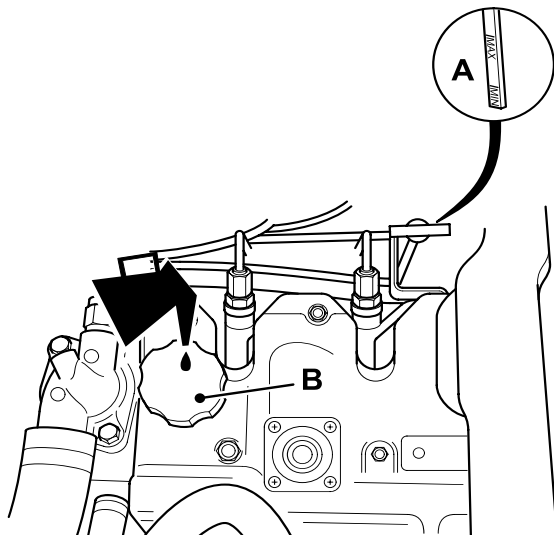

Fig 9.
- 4 Withdraw dipstick and wipe clean, re-insert fully into tube and withdraw to check level. The correct level will show the oil at the top of the hatched area of the dipstick **A**. → Fig 9. \(□ 3-31\)